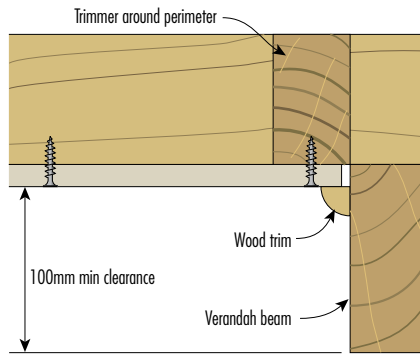

FIGURE 3
- Minimum 100mm clearance from external ceiling lining to lower edge of verandah beam or masonry lintel, otherwise provide protection against wind blown rain. [Refer to Figures 3, 4, 5, 6 and 7]